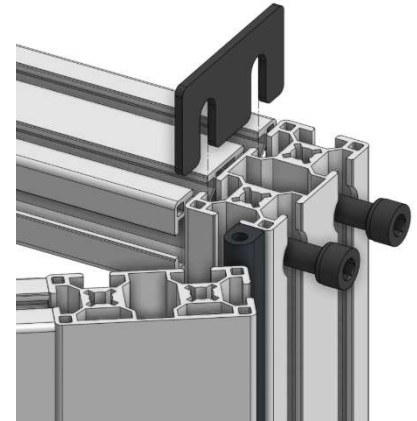

Figure 7. Header Spacer
7. On a dual door, verify that the center reveal is properly sealed with brush in the center. If the gap is too small where the doors make contact, use 1 or 2 header spacers to widen the frame. (Figure 7) Loosen 2 M8 hex screws partially with a 6mm allen wrench to allow the spacer to fit, then install the spacer and tighten.